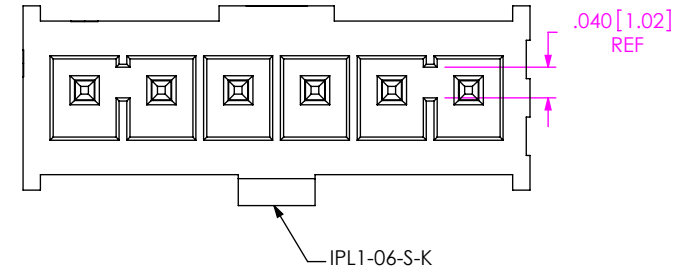

FIG 4
- K: KEYED POLARIZATION (USE IPL1-XX-S-K) (SEE FIG 4, SHEET 3) (LEAVE BLANK FOR NO POLARIZATION, SAMTEC WILL ONLY SUPPORT EXISTING BUSINESS AS OF REV J)